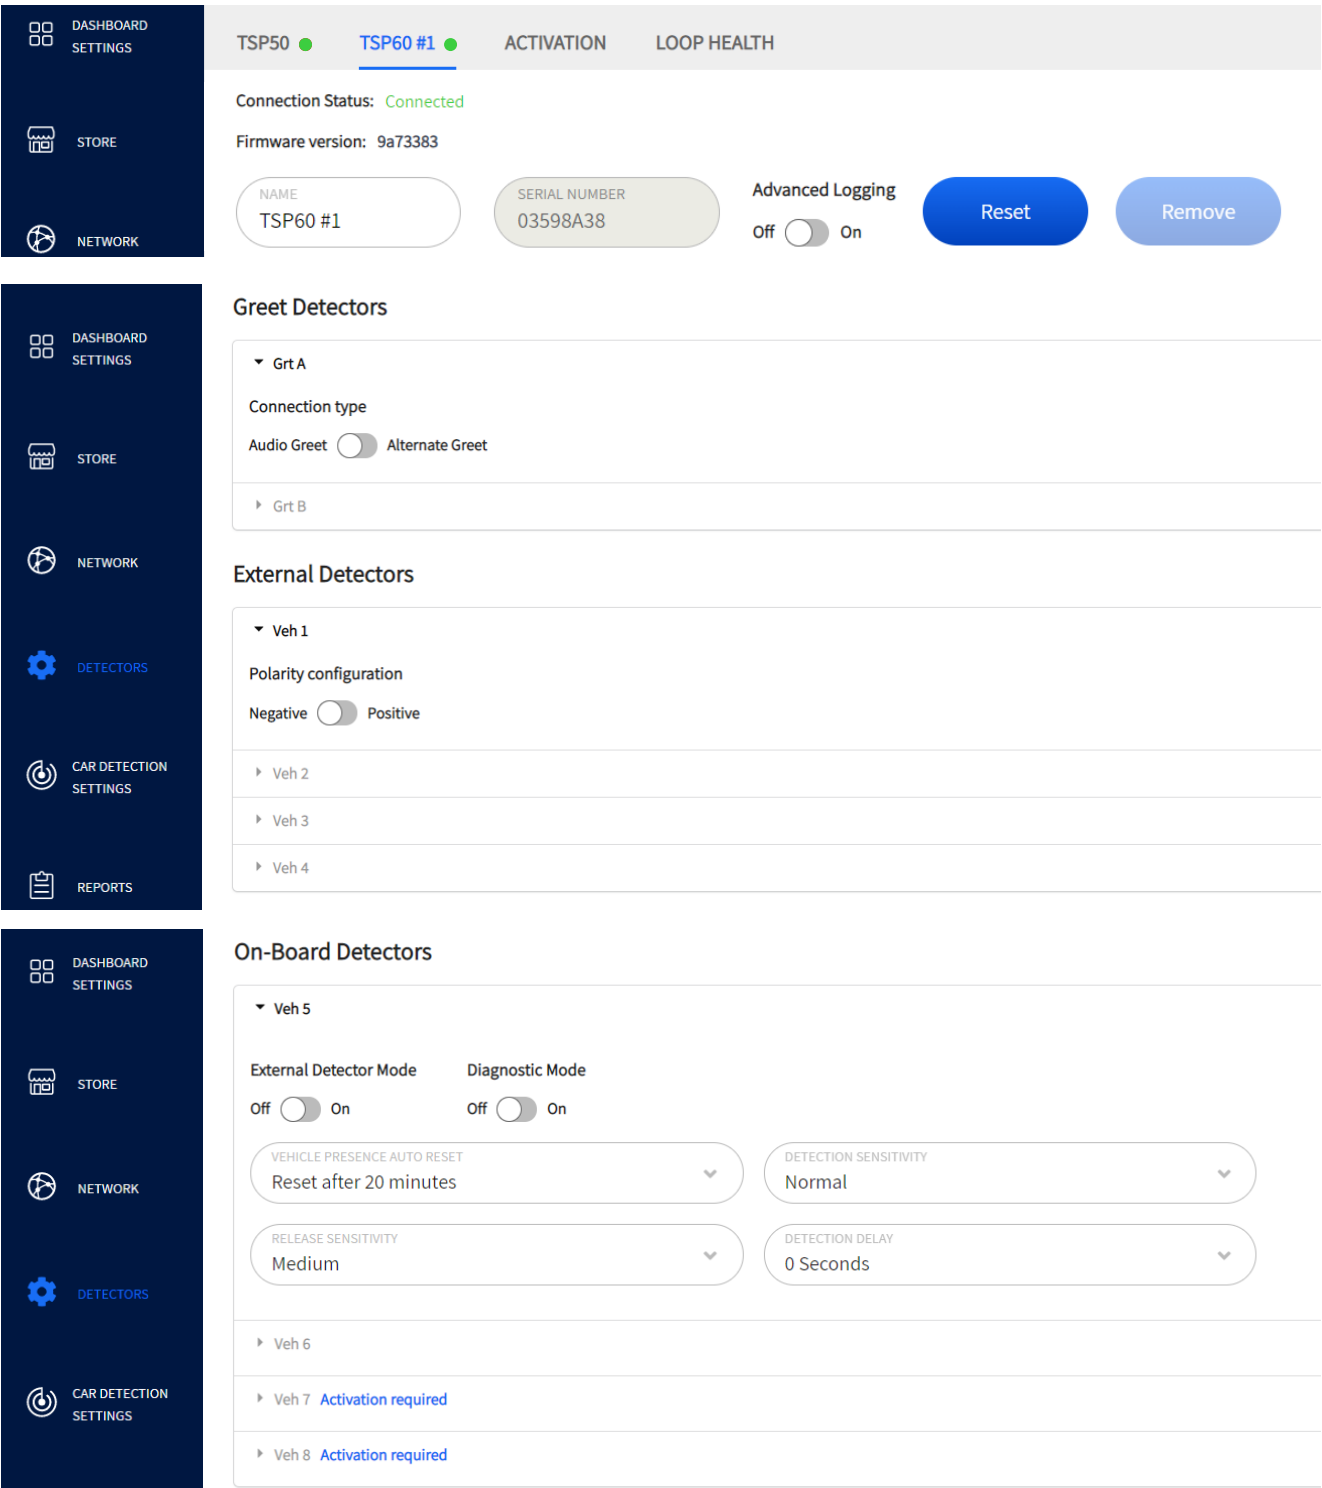

Fig. 6.3
**Why is it needed?** You can check the connection status, rename your TSP and configure detectors here. The green indicator next to TSP60 #1 in Fig. 6.3 indicates it is connected. If an issue arises with your TSP, you can reset it by using the  button. **Caution! resetting the TSP closes out the lane temporarily.** Therefore, all current lane event data is lost if there are vehicles present in the lane when the reset button is used. The TSP will begin monitoring lane events again once it reboots.
Depending on what TSP model your store is using determines what TSP is displayed at the top of the screen. In Fig. 6.3, two TSP models are employed, so both TSP50 and TSP60 #1 are displayed. If for example, you were to add another TSP60 to your system, it would also be displayed here.
The green indicator  next to the TSP60 tab in Fig. 6.3 indicates this TSP60 is physically connected. If the TSP is physically disconnected, this indicator will turn red, and a prompt will also notify you.
When a TSP is physically disconnected, it is still visible onscreen because it has not been removed from the system yet. Use the  button to accomplish this. This button only becomes active when a TSP is disconnected (a safety measure to prevent accidental removals). For example, in Fig. 6.3, TSP60 #1 is connected, so the Remove button is deactivated (indicated by a faded blue color). If TSP60 #1 is disconnected, the green indicator turns red, and the  button becomes active. Once clicked, TSP60 #1 will disappear from the top of the screen, leaving only TSP50 displayed. Re-connecting the TSP will cause it to appear again with a green indicator next to it.